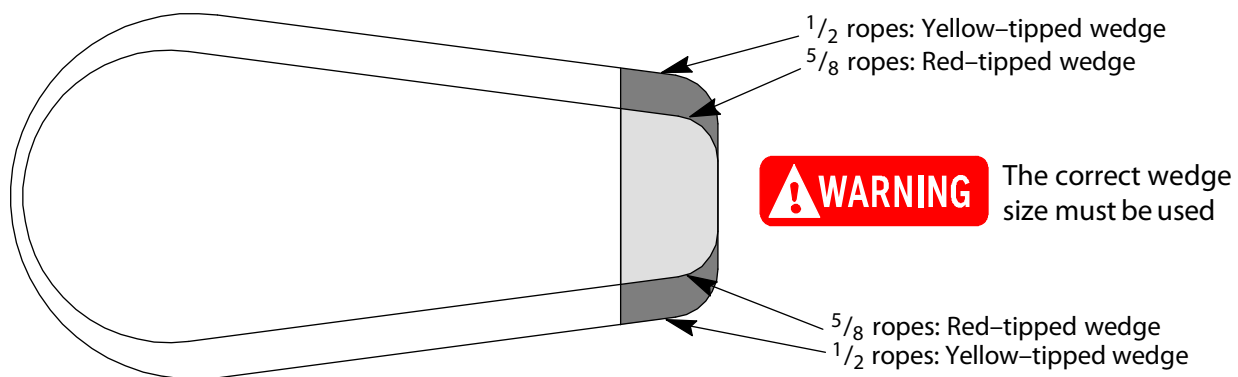

Figure 21 - Confirm Actual Wedge Size and Correct Wedge Color
1. Place a wedge over the drawing in Figure 21 to confirm the correct color and size of the wedge.